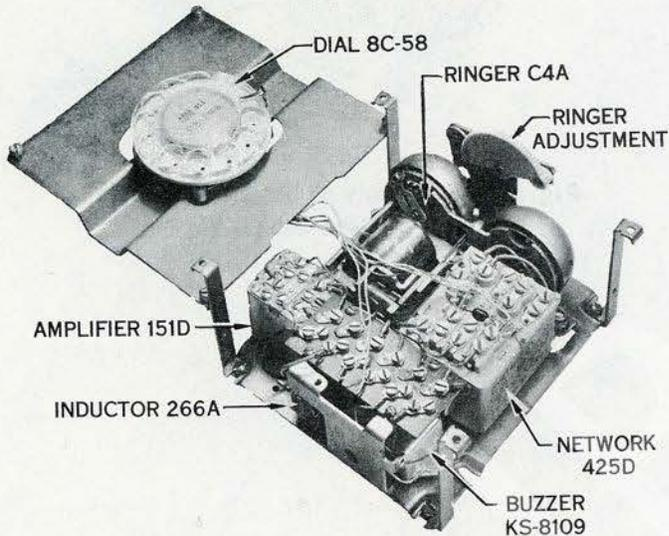

Fig. 13 – 690A3 Subscriber Set, Internal View
- (c) 690A3: Not provided with a faceplate, mats, or dust pan. Equipped with mounting screws, a top plate, and brackets for mounting the set in the dust pan of a 400-type key mounting (Fig. 13).